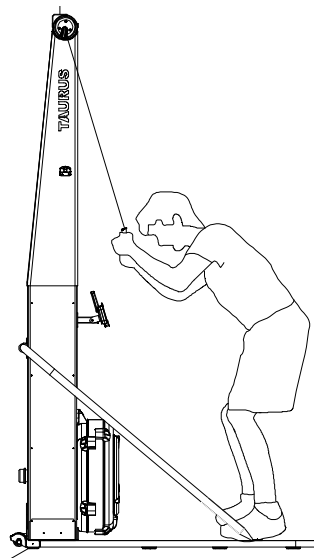

Fig. 22
3. Keep your arm bends angled and pull the handles downwards. (Fig. 22).